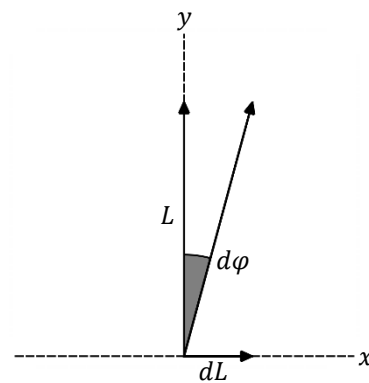

Fig. 3
From (1) and (2), you see that the angular momentum vector turns by an angle $d\phi$ in the x - y plane (see fig. 3). As the spin angular velocity is large, the angular momentum remains almost along the axis of the wheel, and hence to rotate the angular momentum, the wheel itself rotates.
The angle rotated in time dt is $d\phi$, from fig. 3,